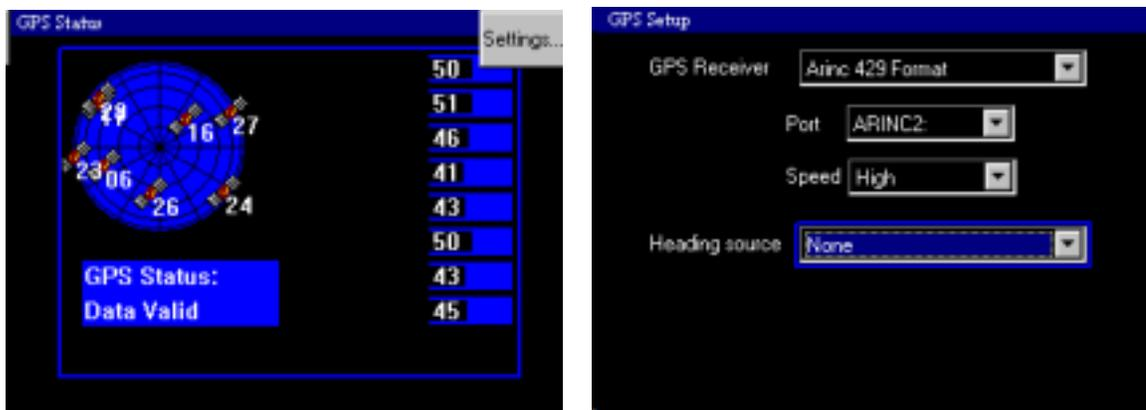

FIGURE 12: GPS Status and Setup Pages (ARINC 429)
2. The GPS STATUS page appears (Figure 12).
3. Select SETTINGS, this will bring up the GPS SETUP page (Figure 12).